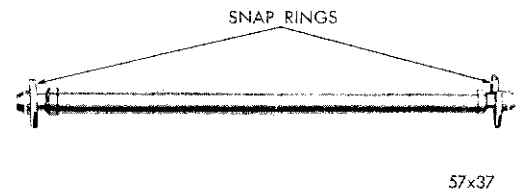

Fig. 31—Positioning Governor Valve Shaft Snap Rings in Grooves
(1) Slide the governor body and support assembly into oil pump housing. It will be necessary to compress seal rings on governor support. **Do not force.**
(2) Align the locating hole in output shaft with hole in governor support, install set screw and tighten to 60-80 inch-pounds. If the governor body had been removed from support, the four governor body screws should now be tightened.
(3) Place the governor weight assembly (secondary weight snap ring facing out) into governor body, use pliers, Tool C-3229, and install snap ring, convex side facing out.
(4) Slide the governor valve over governor valve shaft, insert the shaft and weight into governor weight and install snap ring securely (Fig. 31). Check operation of governor weight assembly and valve by turning output shaft. Both should fall freely in body.
(5) Install the transmission extension.